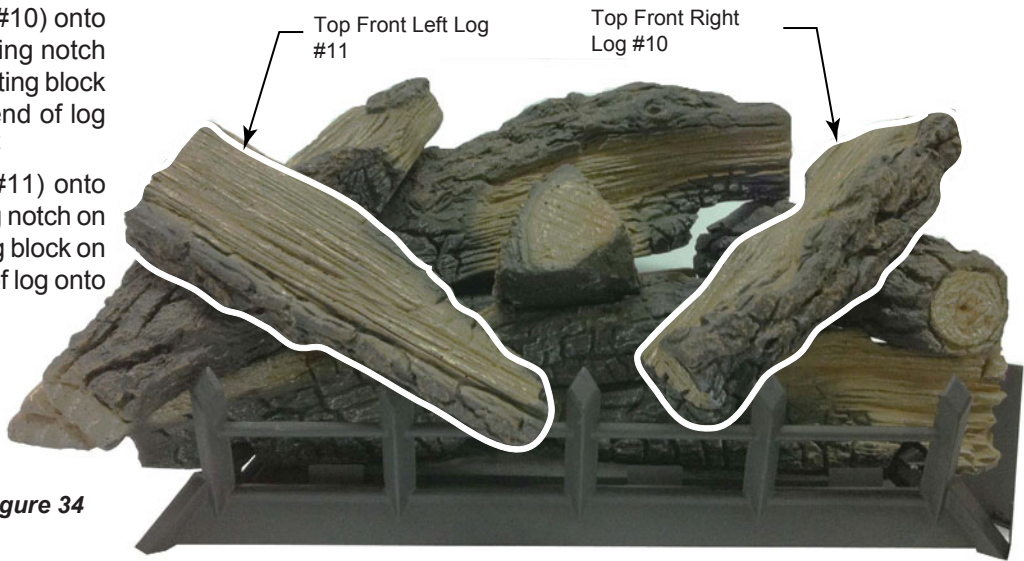

Figure 34
10. Place top front right log (#10) onto mid right log (#6) by placing notch on bottom of log onto locating block on log #6. Rest bottom end of log onto grate bar. *Figure 34*
11. Place top front left log (#11) onto mid left log (#8) by placing notch on bottom of log onto locating block on log #8. Rest bottom end of log onto grate bar. *Figure 34*